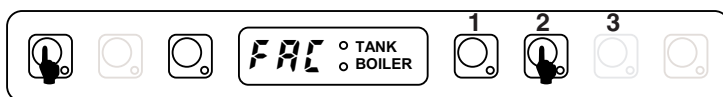

Fig. 32 Factory setting mode.
- Enter into the FACTORY SETTING mode: press and hold down ON/OFF and BUTTON_2 keys for at least **5 seconds** (Figure 32);